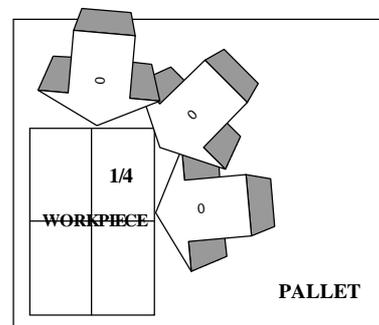

Fig 6.3 Reference 2
2. If all step approach direction are on 2/4 area on the basis of work position which is to be stacked on the pallet, select “1” as the work approach direction. (refer to fig 6.3)